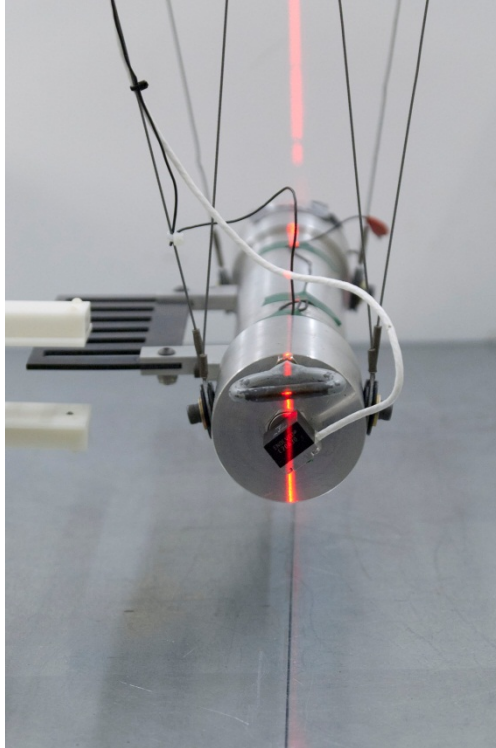

Figure 101. Align laser with probe centerline and pendulum path reference line on support surface
- Place the qualification bench²⁹ (Figure 101) in the probe's impact area so that the dummy can be impacted in the thorax.